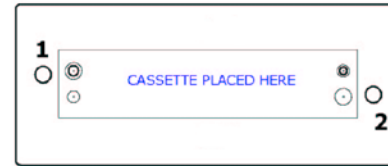

FIGURE 1
7. Using the calibrated torque wrench with an 11/16" deep style socket, tighten each hex nut ¼ turn following the torque sequence illustrated in Figure 1. Tighten the first nut ¼ turn, and then tighten the second nut ¼ turn alternating back and forth until the torque wrench "clicks". Repeat this sequence until the wrench "clicks" without turning the nut. The "click" of the torque wrench indicates that the nut has reached the set point torque value.
8. Wait 5-10 minutes and allow the gaskets to relax before re-torquing. Check each nut, per the Figure 1 sequence, using the torque wrench at its set point torque value (see step 7 above).